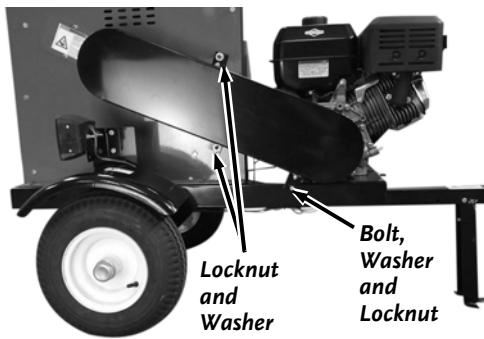

Figure 38
1. Remove the Bolt, Washer and Locknut that attaches the lower area of the Guard to the Frame using two 1/2" Wrenches (**Figure 38**).